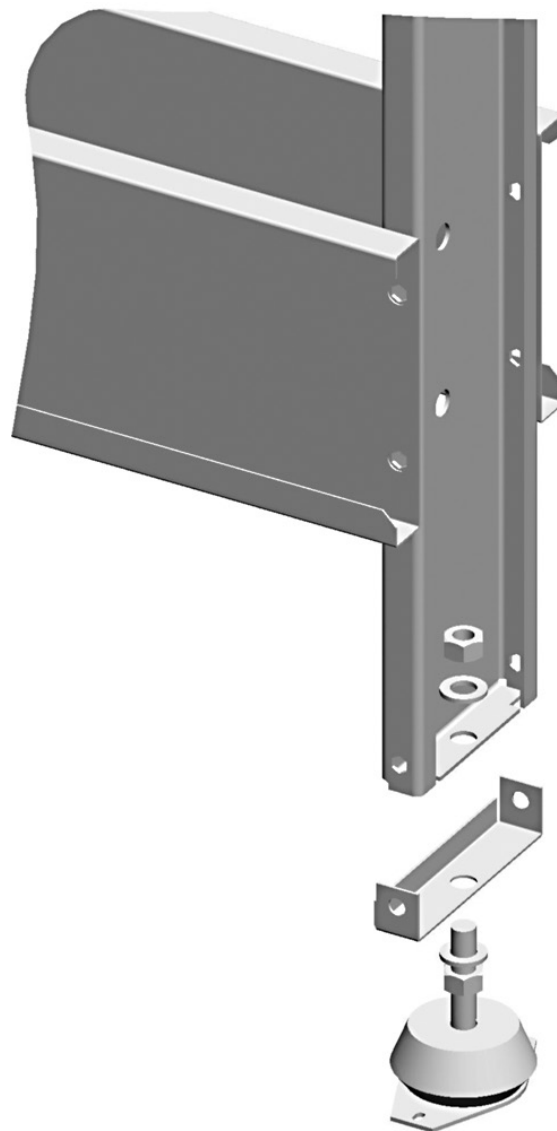

Figure 4
- 6.5 The equipment must be securely anchored to the support base, use all the fixing points. In order to prevent the transmission of noise. Possibly use shock absorbers. See Figure 4.